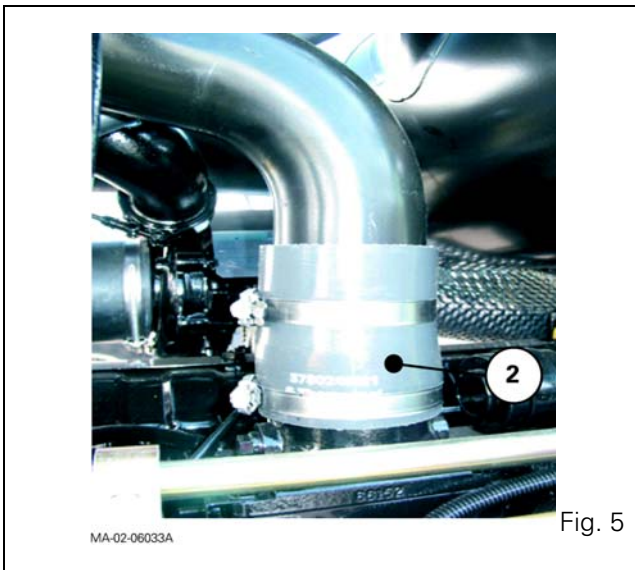

Fig. 5
- 11.** Disconnect the air sleeve (2) (intake on inlet manifold) from the cooling sleeve (Fig. 5).